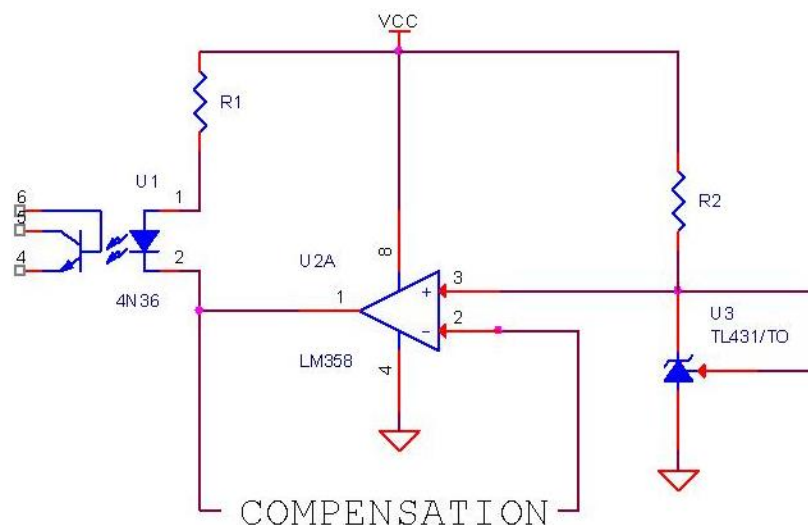
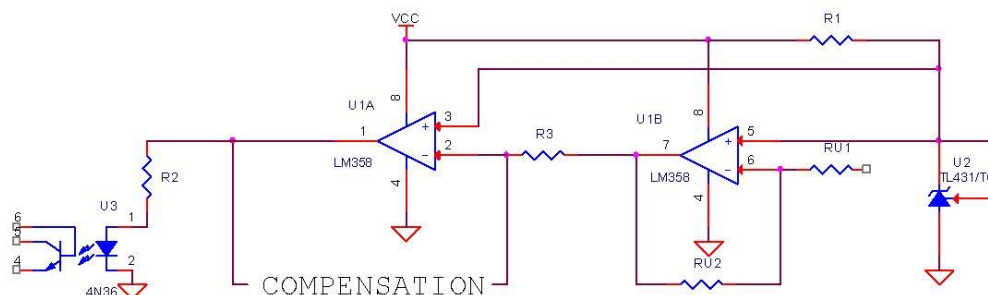

FIGURE 1
FIGURE 2
1) Don't use single op-amp part as feedback with opto-LED cathode side connected to its output side (and anode connected to VCC side) to save another op-amp part (Figure 1). Otherwise there might still be enough voltage differential across opto-LED to let it turn on at input turn off command. This issue can be seen frequently in op-amps that don't provide rail-to-rail operation. Even if used two op-amp parts so that signal level could be inverted again (Figure 2) the acoustic noise would be still loud there and next suggestions should be followed.